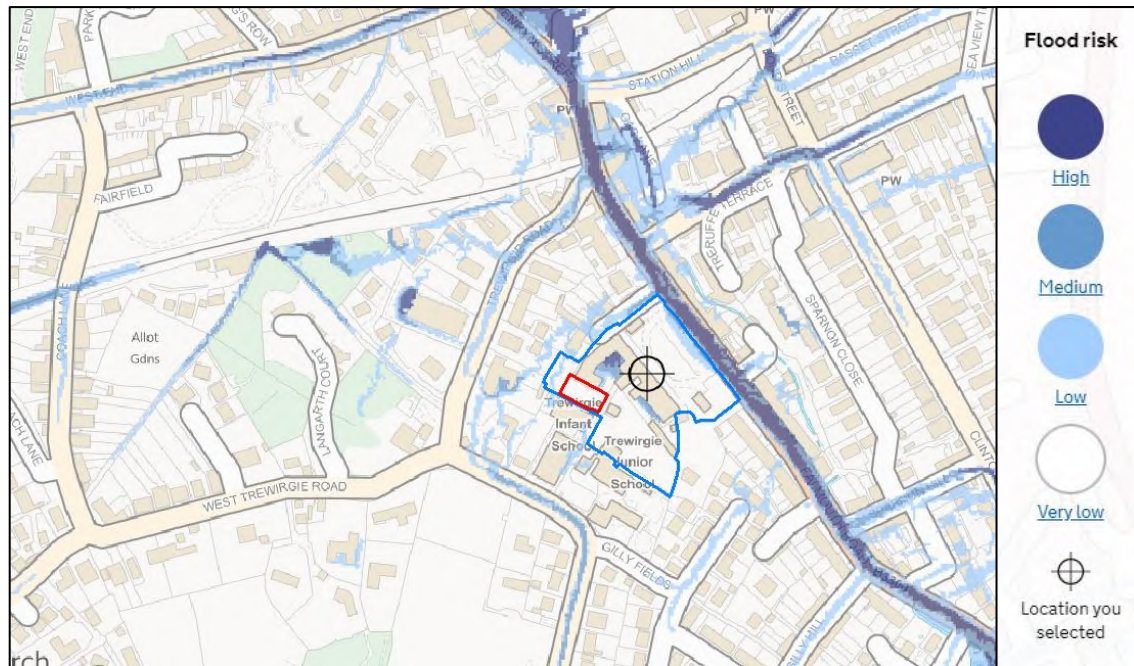

Figure 7: EA Long Term Flood Risk -Surface Water (Source: EA)
4.9 Some areas of the wider Junior School complex are at risk of flooding from surface water as defined by the EA Long Term Flood Risk Maps (Figure 7). However, Figure 7 indicates that the redline application boundary and therefore the proposed classroom building are located in an area of 'Very Low' surface water flood risk.